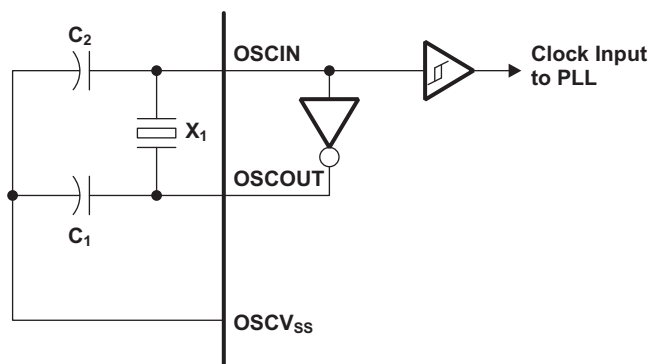
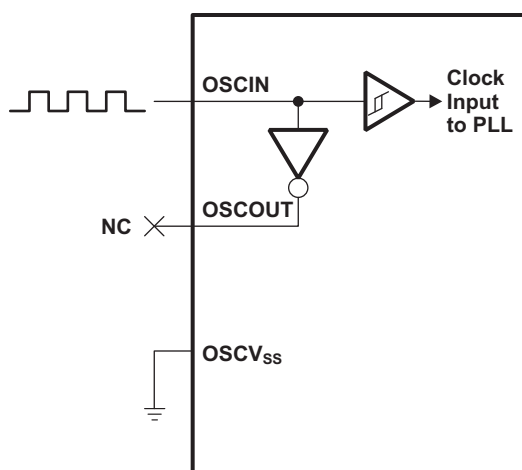

Figure 6-6. On-Chip 1.2V Oscillator
Figure 6-7. External 1.2V Clock Source
The device includes two choices to provide an external clock input, which is fed to the on-chip PLL to generate high-frequency system clocks. These options are illustrated in Figure 6-6 and Figure 6-7. For input clock frequencies between 12 and 20 MHz, a crystal with 80 ohm max ESR is recommended. For input clock frequencies between 20 and 30 MHz, a crystal with 60 ohm max ESR is recommended. Typical load capacitance values are 10-20 pF, where the load capacitance is the series combination of C1 and C2.
- Figure 6-6 illustrates the option that uses on-chip 1.2V oscillator with external crystal circuit.
- Figure 6-7 illustrates the option that uses an external 1.2V clock input.